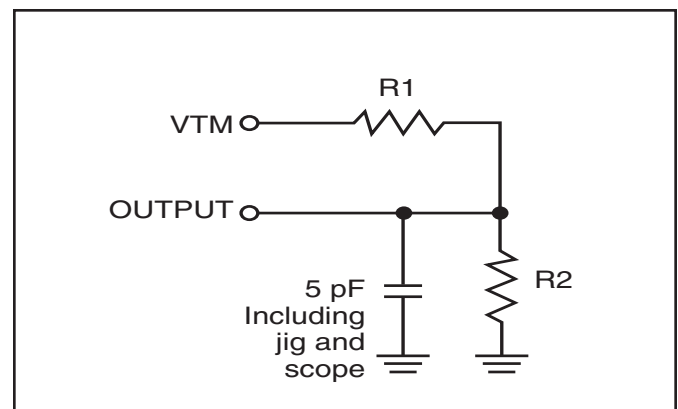

Figure 2
2. Tested with the load in Figure 2. Transition is measured ±100 mV from steady-state voltage. Not 100% tested.
3. Tested with the load in Figure 2. Transition is measured  $\pm 100$  mV from steady-state voltage. Not 100% tested.